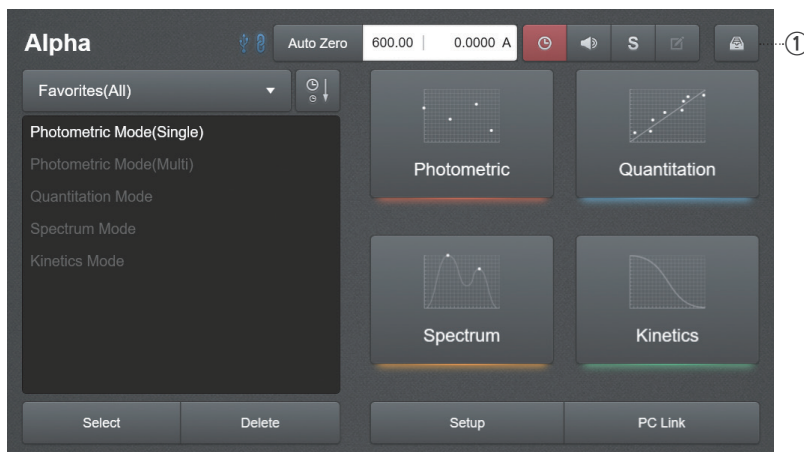

Fig. 8.3
1. [Fig. 8.3] Select the ① icon on the main screen to enter Explorer mode.